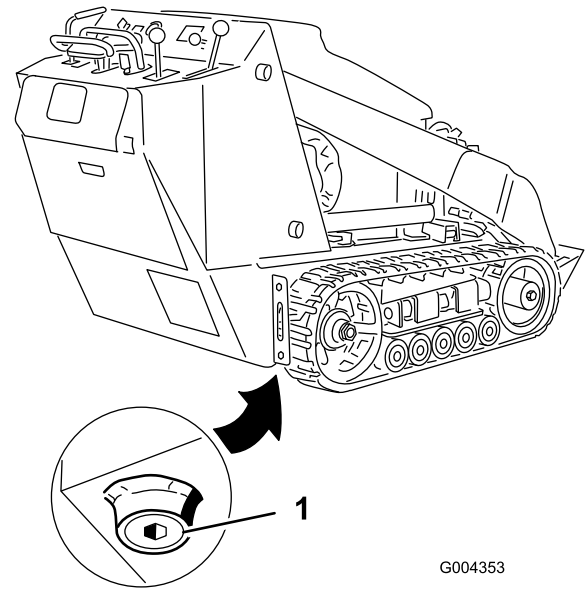

Figure 34
4. Remove the drain plug (Figure 34).